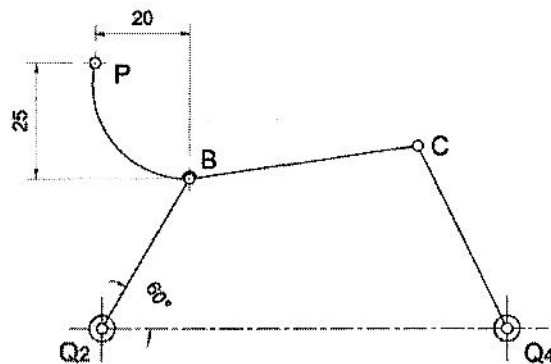

Figure 2
7.  $Q_2B$  is 37.5 mm;  $Q_2Q_4$  is 87.5 mm;  $Q_4C$  is 44 mm;  $BC$  is 50 mm. Angular speed of the crank  $Q_2B$  is 1 rad/sec CCW. Find velocities of C and P with reference to instantaneous axis or relative velocity method (Refer figure 2).